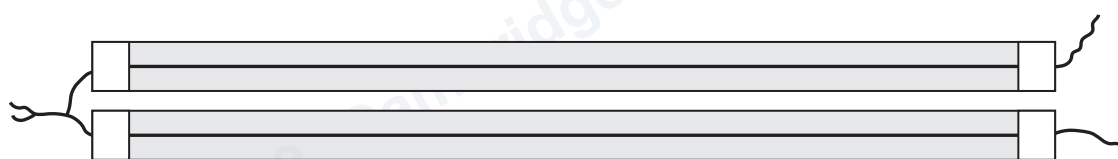

Figure 2.1
- 2 A length of wire should be taped to each metre rule as shown in Figure 2.1.